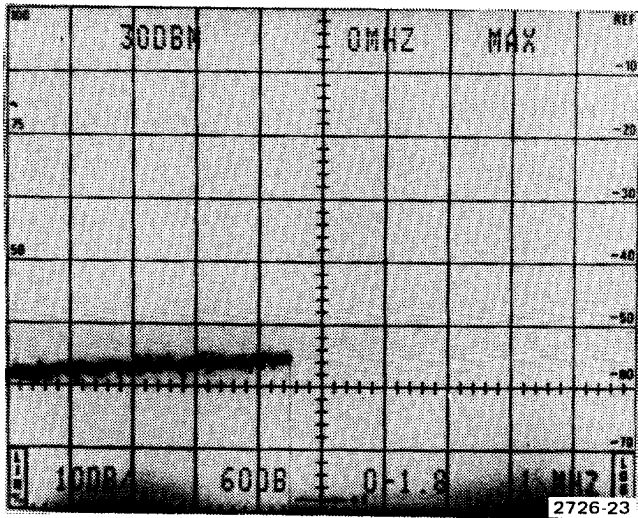

Fig. 3-3. Crt readout for power-up state.
a. Connect the 492/492P power cord to an appropriate power source (see Power Requirements under Installation instructions) and switch POWER on. Allow three to four minutes for the instrument to warm up and stabilize before proceeding. Note that the crt readout is functioning (see Fig. 3-3).